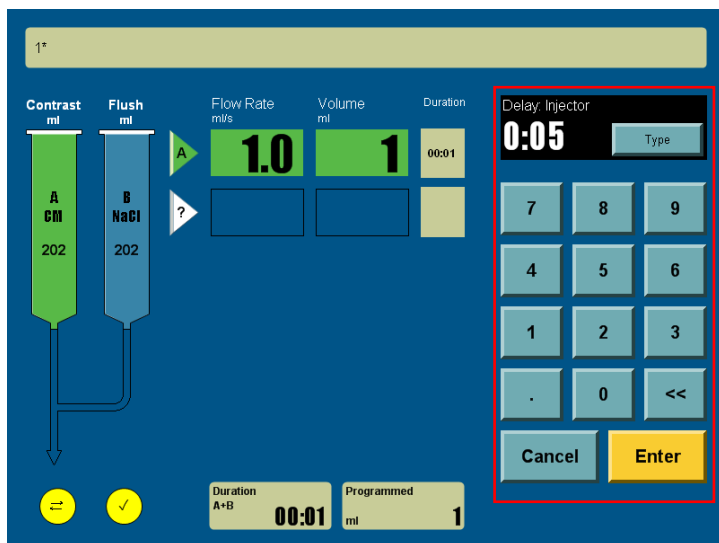

Figure 41
**Injector Delay:** After the Inject key is pressed, the Injector Delay time starts counting by one second increment, see Figure 41. When the injector delay time has been reached, the injection starts automatically.